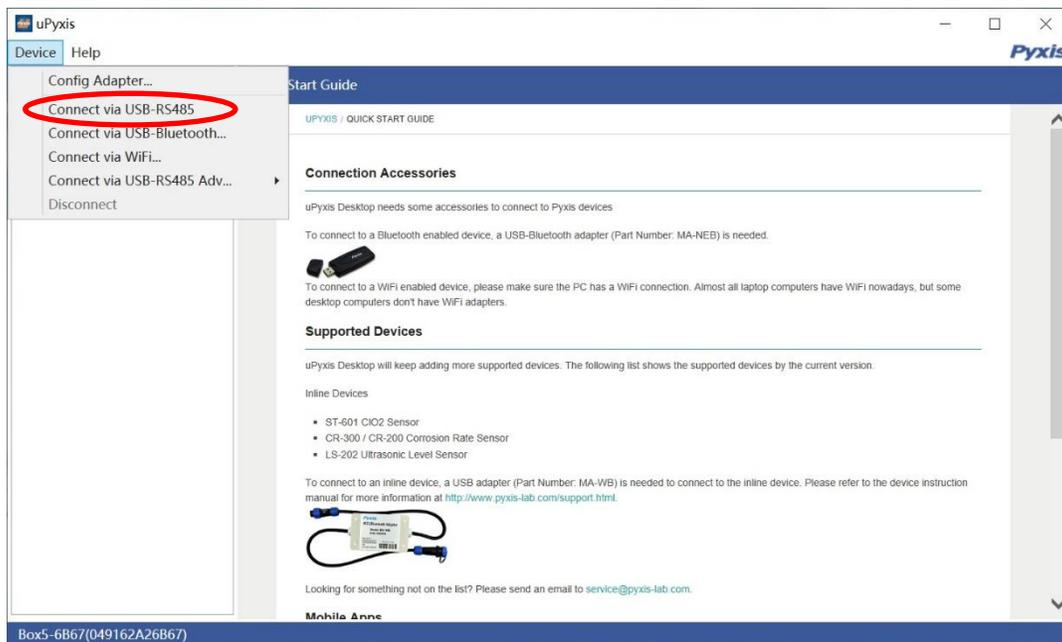

Figure 16 - Connection Options
- 6) Select Connect via USB-RS485 (Figure 16).